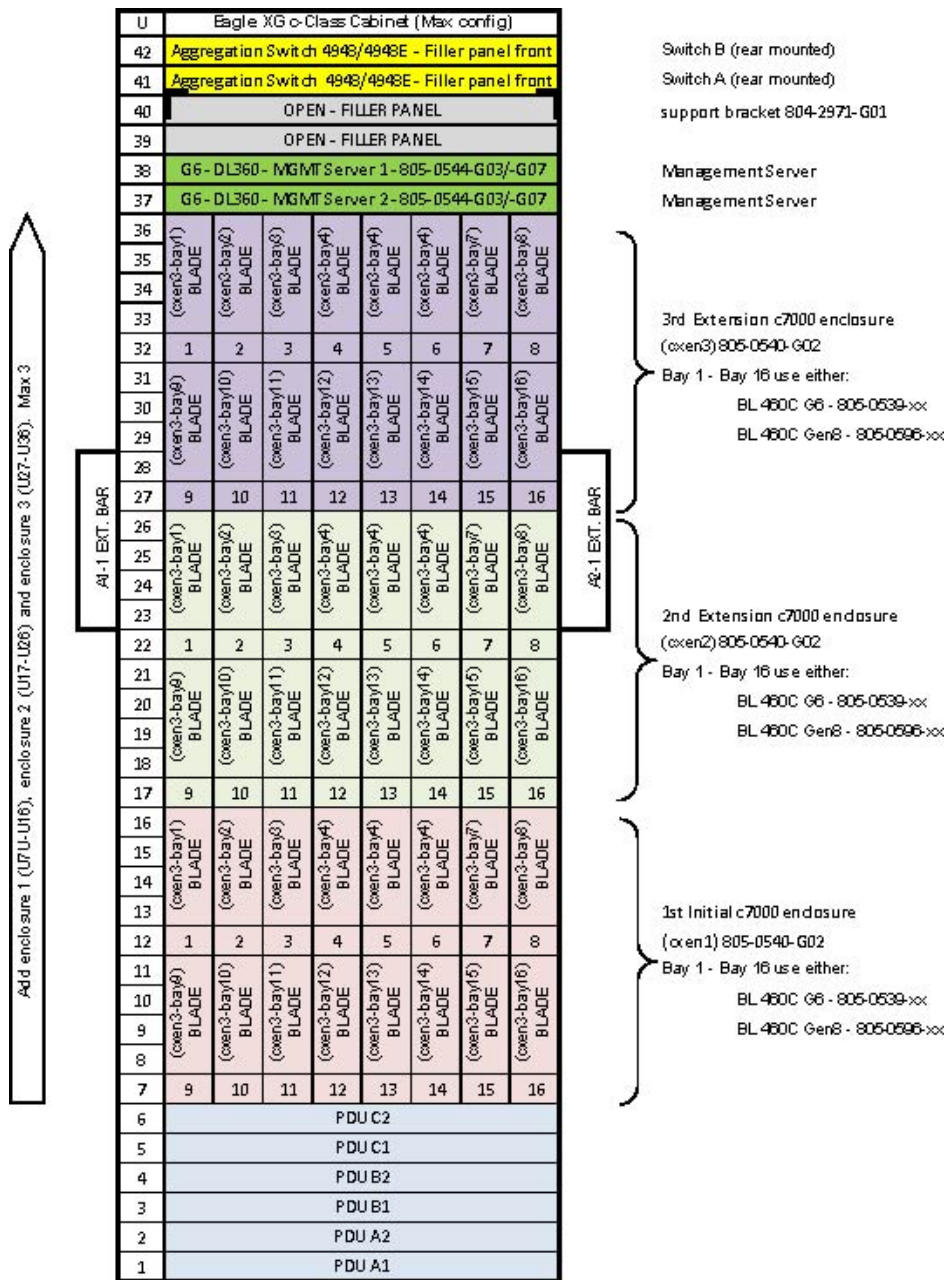

Figure 1: Example of an AC cabinet with Cisco 4948-4948E
- Figure 1: Example of an AC cabinet with Cisco 4948-4948E